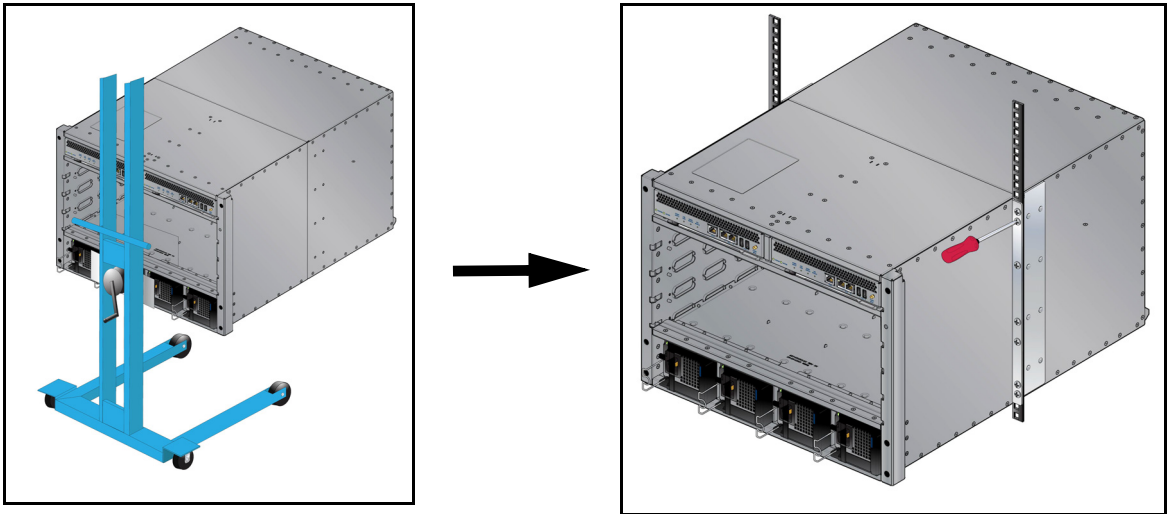

Figure 3: Lifting the Switch Chassis into the Two Post Rack
Step 1 Move the chassis to the rack using a mechanical lift (Figure 3-left).
Step 2 Lift the chassis into the rack. Position the flanges against the rack posts (Figure 3-right).